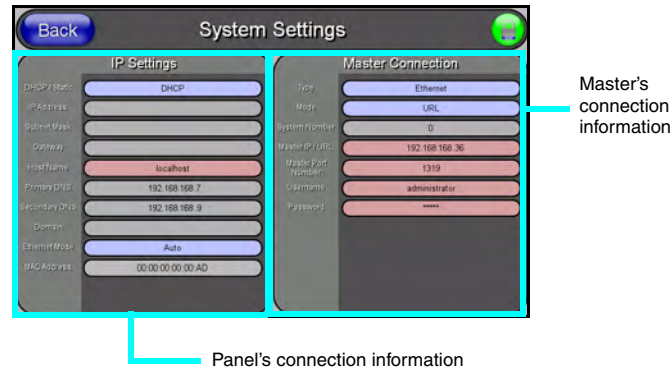

FIG. 7 Sample System Settings page
- Repeat step 3 to access the Protected Setup page and touch the **System Settings** button to open the System Settings page (FIG. 7).